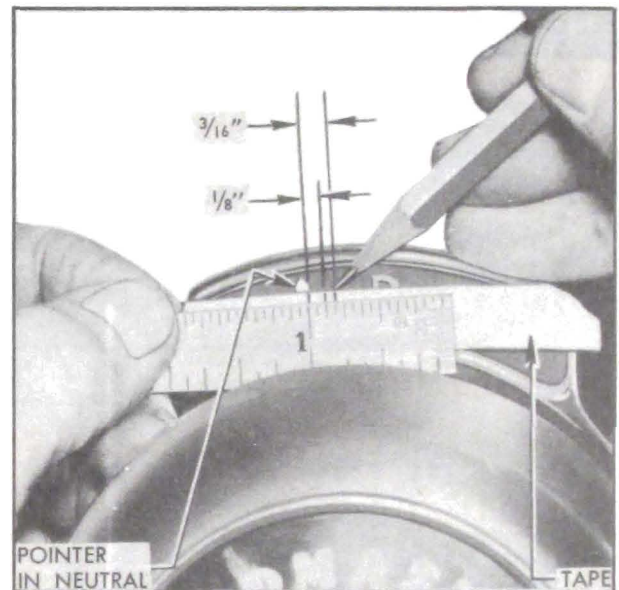
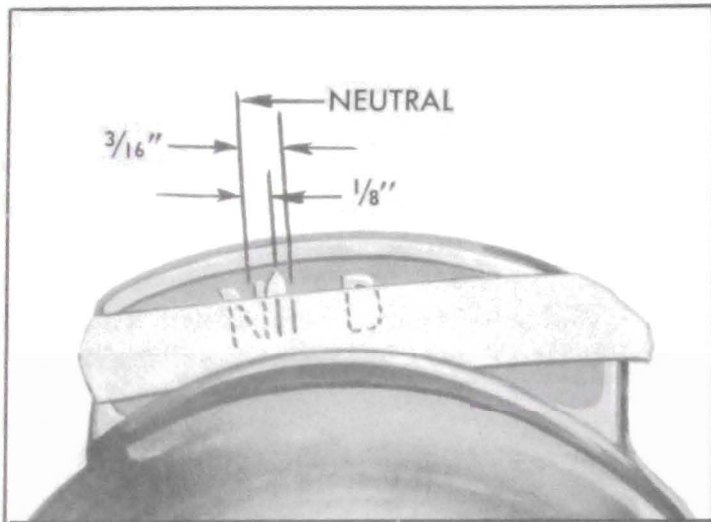

Figure 10-49—Marking Switch Cut-in Limits on Shift Control Window
Figure 10-50—Control Lever Pointer at Switch Cut-in Limits
2. Firmly engage "step-on" parking brake and place transmission shift control lever in Neutral (N), making certain that stop is in shift detent.
3. Place a narrow strip of masking tape on shift control window so that tip of control lever pointer is visible. Make two marks on masking tape at $\frac{1}{8}$ " and $\frac{3}{16}$ " from right edge of pointer. See figure 10-49.
4. Move shift control lever to Drive (D) position, turn ignition on and depress accelerator pedal.
5. Slowly move shift control lever pointer from "D" toward "N", and note position of right edge of pointer at instant that cranking motor starts to operate. This should be between the $\frac{1}{8}$ " and $\frac{3}{16}$ " marks on masking tape. See figure 10-50.